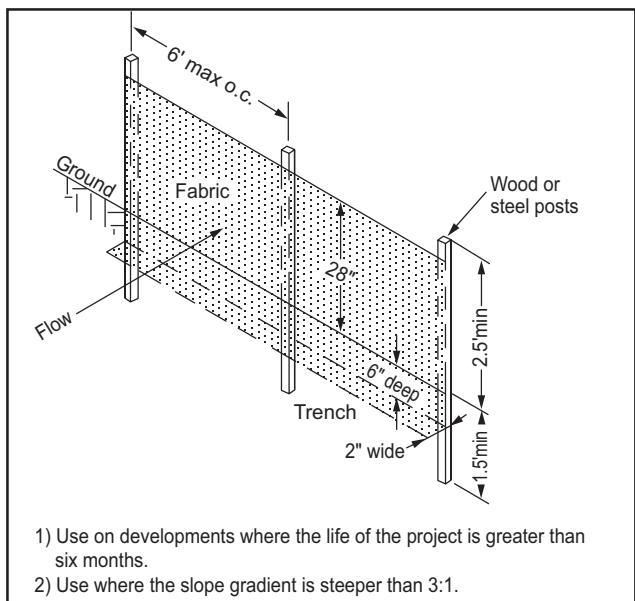

Figure 2. Type "A" Silt Fence (Sd1-A)
- Start post installation at the center of the lowest point with remaining posts spaced according to Figures 2, 3, or 4.